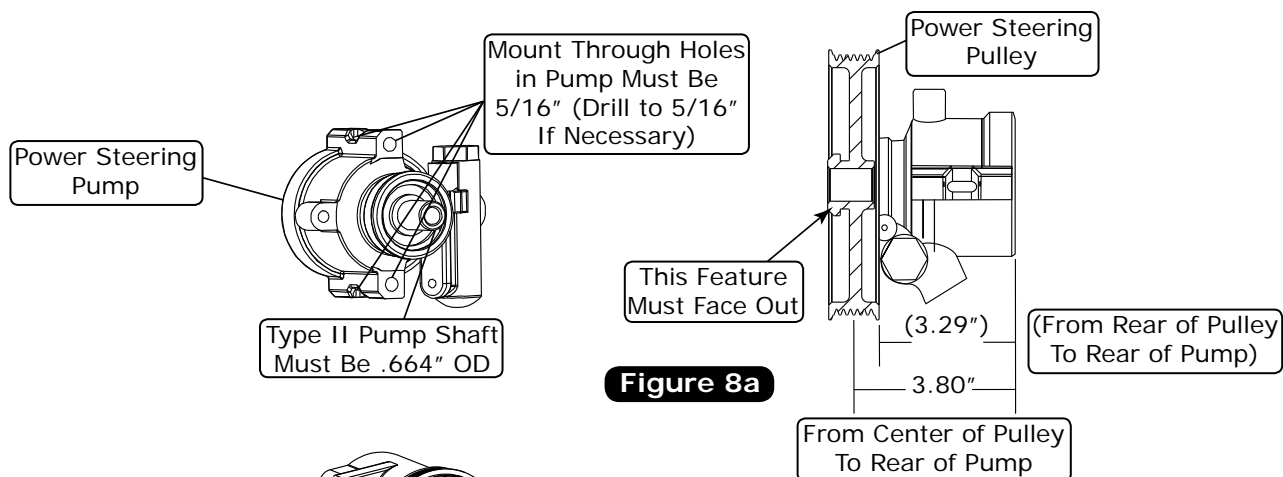

Figure 8a
- Some Type-II GM power steering pumps (non-Vintage Air pumps only) have threaded mounting bases. These must be drilled out to allow the Front Runner mounting bolts to pass through the holes and thread into the bracket (See Figure 8a, below).
1. Using a power steering pump pulley installer, install the power steering pulley onto the power steering pump (See Figure 8a, below).